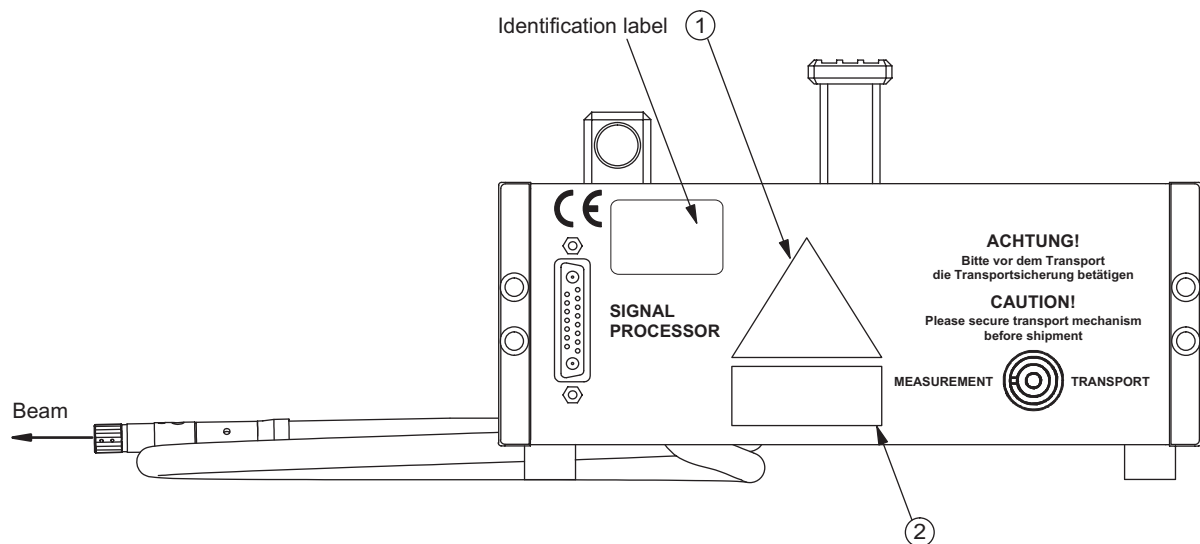

Figure 1.2: Position of the laser warning labels on the sensor head in EC countries
**Position** The position of the laser warning labels in EC countries on the sensor head is shown in figure 1.2.